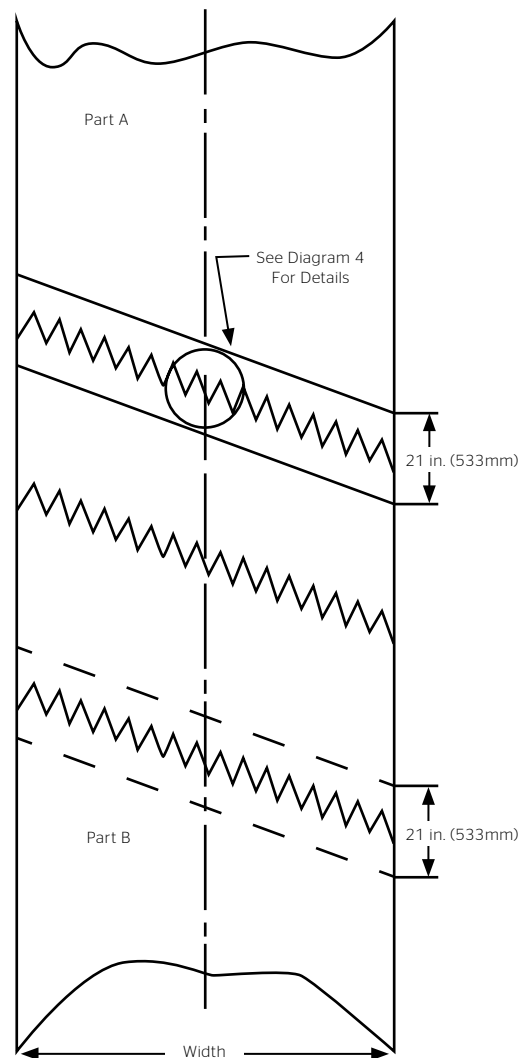

Fig. 6-2
- Fig. 6-2 illustrates the fingers at the end of each step.